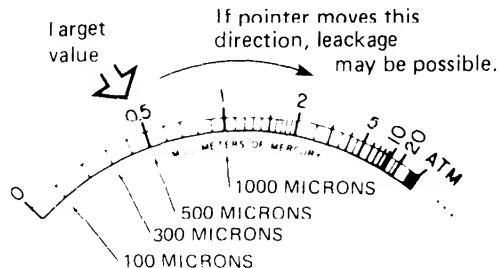

Fig. 22
- 7) Keep this condition at least 5 minutes and observe the vacuum gauge for change. (Fig. 22) If pointer on the gauge moves to larger numbers, check system for leaks again according to the procedure in section 9-11-2. Page 59.